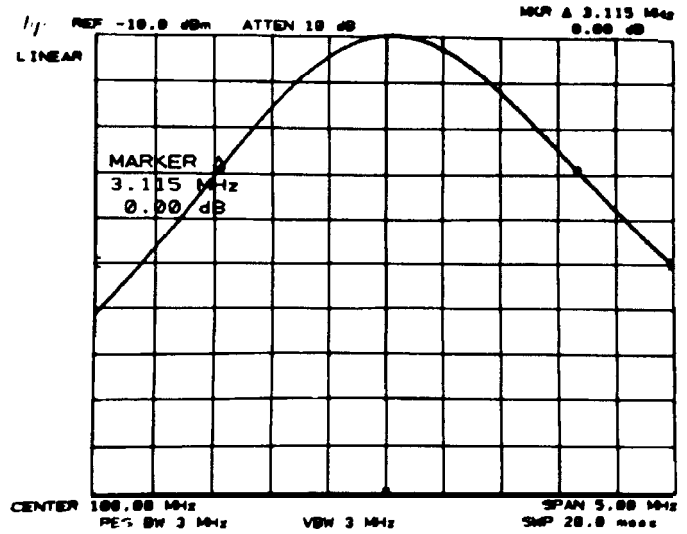

Figure 2-5. Resolution Bandwidth Measurement
7. Press MARKER (**Δ**) and position movable marker 3 dB down from the signal peak on the negative-going edge of the trace (the MARKER A amplitude readout should be .00 dB f0.05 dB). The 3 dB bandwidth is given by the MARKER A frequency readout. (See Figure 2-5.) Record this value in Table 2-5.